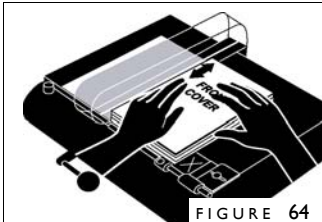

FIGURE 64
5. With the book spine pushed fully and firmly to the left, fold the cover over your book block (figure 64). Starting at the middle, rub back and forth to secure the cover to the adhesive.